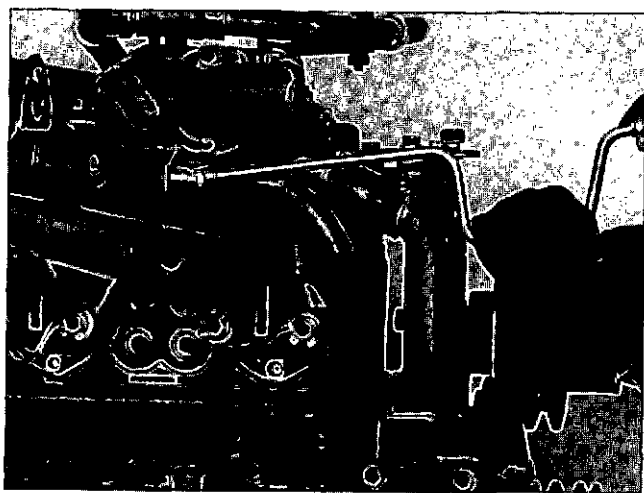

Fig. 0-14. Remove The Capscrew That Holds The Transfer Tube.
5. Remove the capscrew, lockwasher and flatwasher that hold the water transfer tube to the housing for the thermostat, Fig. 0-14. Remove the water transfer tube and discard the O-rings.